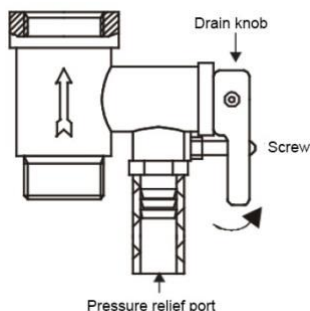

Fig 7
6. To drain the internal tank, use the safety relief valve: unscrew the screw of drain knob on the safety relief valve and move the drain knob to the up position — the hot water outlet tap must be open and the cold water inlet tap must be closed (see Fig. 7). Water will start flowing from the pressure relief port of the safety relief valve.